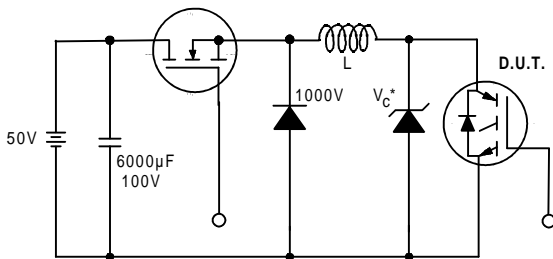

Figure 19. Clamped Inductive Load Test Circuit
- ② $V_{CC}=80\% (V_{CES})$, $V_{GE}=20V$, $L=10\mu H$, $R_G = 50\omega$ (figure 19)
- ③ Pulse width $\leq 80\mu s$; duty factor $\leq 0.1\%$.
- ④ Pulse width $5.0\mu s$, single shot.